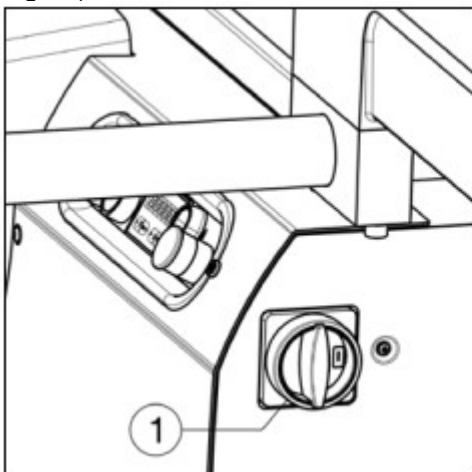

Fig 4
- connect the 3 phases to the terminals marked L1, L2, L3 (fig 4);
Starting up the machine (fig 4 – 5 -6 – 7)